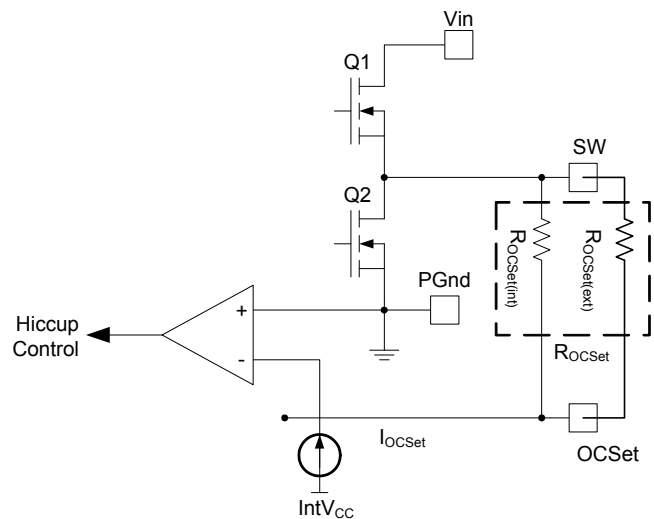

Figure 11: Connection of over-current sensing resistor
The over current protection is performed by sensing current through the $R_{DS(on)}$ of low side MOSFET. This method enhances the converter’s efficiency and reduces cost by eliminating a current sense resistor. As shown in Figure 11, an external resistor (R_{OCSet}) is connected between OCSet pin and the switch node (SW) which sets the current limit set point.